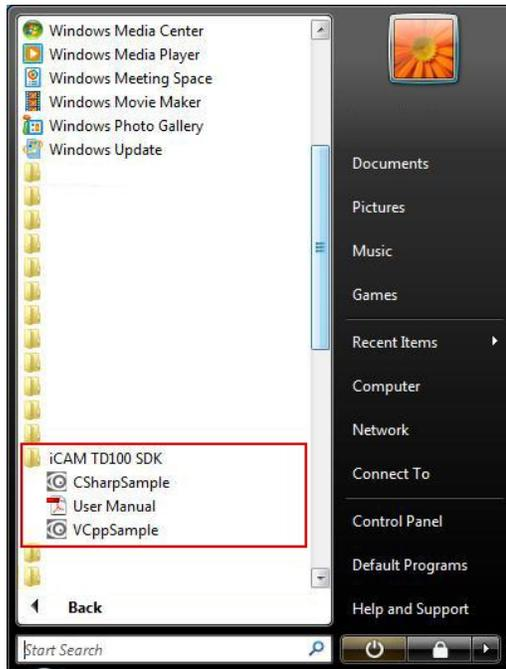

Fig. 4
**\*Additional Note:** After the installation has completed successfully, the program and required driver should now be properly installed when using either Windows Windows 7 (64-bit). Once the driver and software have been properly installed on your Windows 7, you are now ready to plug-in your powered USB cable connection from the iCAM TD100 to the computer. A message balloon indicating that new hardware has been properly installed may appear when the USB cable is inserted. Access the installed software by going to your programs screen from the start button on the PC (Fig. 4). If using Windows XP or Windows 7 x86 (32-Bit), follow the steps in section 4.1 for device installation (for Windows XP and Windows 7 32-bit OS only).